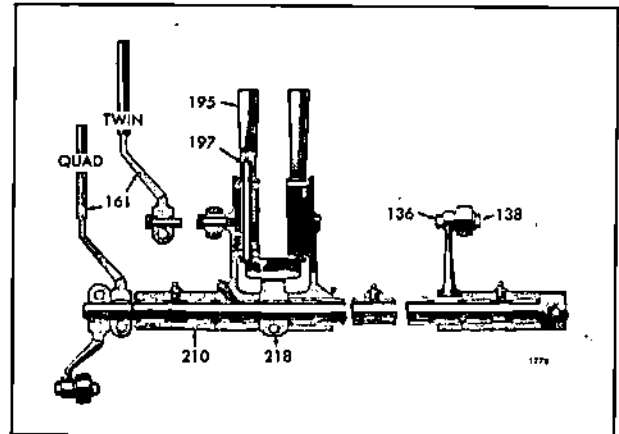

Fig. 28 - Throttle Control Cross Shaft Assembly—Twin and Quad Units
2. Make sure that each throttle control lever (195) is locked in place on the quadrant (218), by the latch pin (197), Fig. 28.
3. Move the master throttle control lever (161) to the MAXIMUM SPEED position.